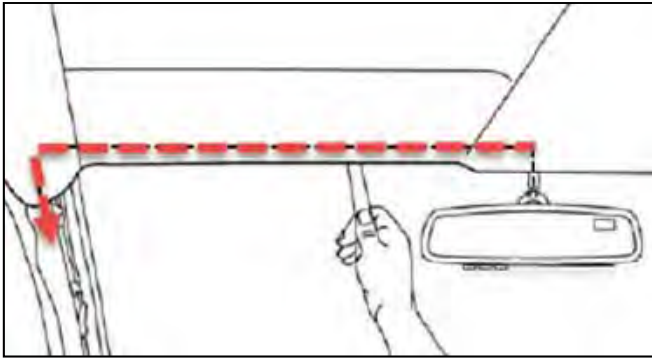

Figure 15
15. Route mirror main power harness along front edge of headliner towards the LH vehicle A-Pillar. See figure 15.